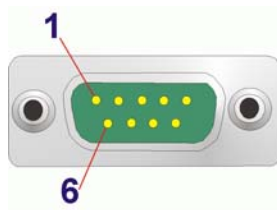

Figure 3-24: COM1 Pinout Locations
- CN Pinouts:** See **Table 3-25** and **Figure 3-24**